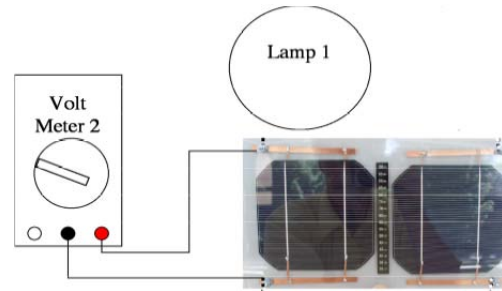

Fig. 2.2: Measuring open circuit voltage
2. Connect the volt meter and measure and record the open circuit voltage for each cell (see Fig. 2.2). Enter the data into Table 2.1.